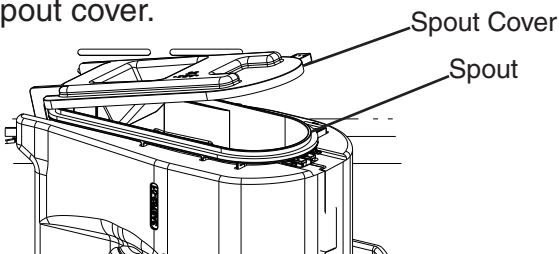

Fig. 5
- 6) "GM" LED and "COMP" LED are on. Open the spout cover slightly. See Fig. 5. "GM" LED and "COMP" LED turn off within 10 seconds and the control board sounds a 9 beep alarm. Close the spout cover.